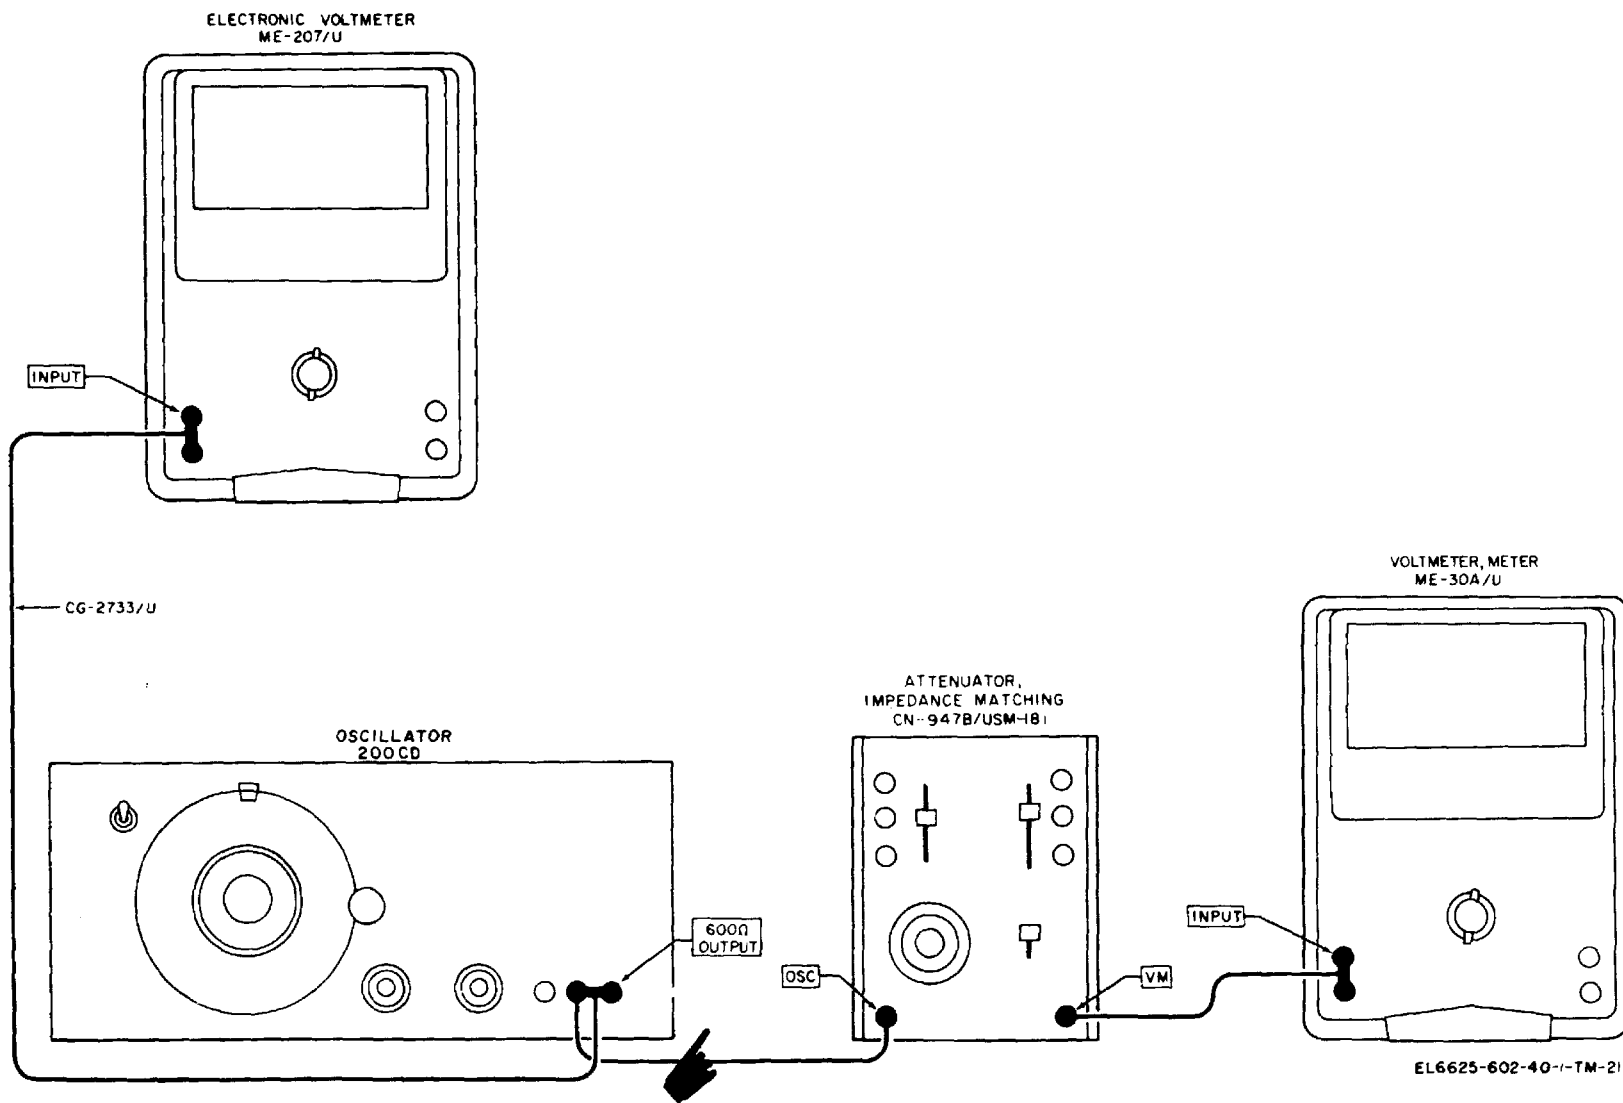

Figure 5-4. Attenuator, Impedance Matching CN-947B/USM-181 frequency response and attenuator accuracy tests.
b. *Test Connections and Conditions.* Connect the equipment as shown in figure 5-4.
- b. *Test Connections and Conditions.* Connect the equipment as shown in figure 5-4.